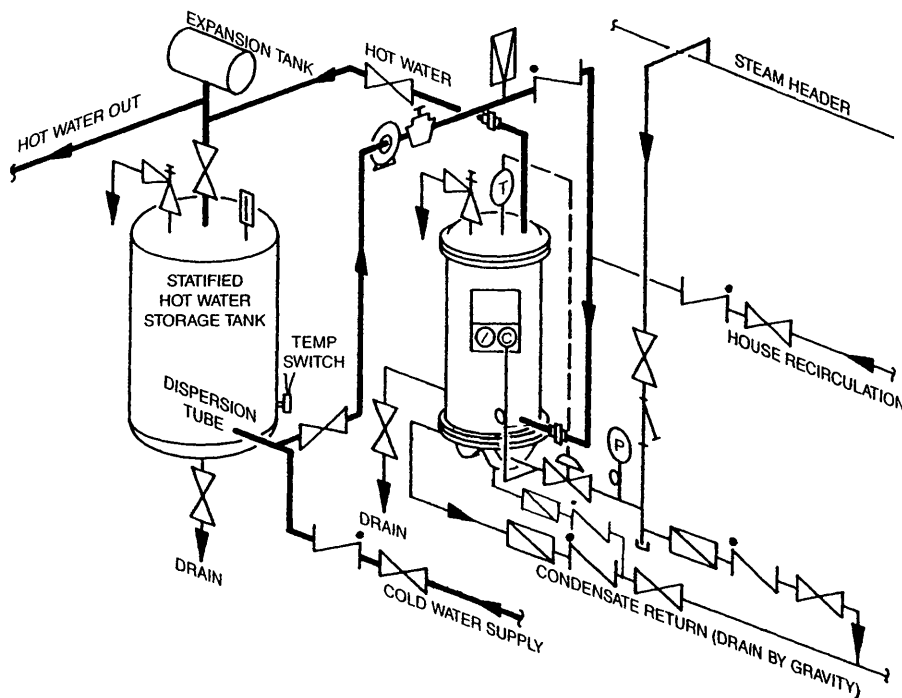

Figure HE-106-6 -- Piping Connections for a Single Steam to Water Heater with a Stratified Storage Tank
- Single Heater with a Stratified Storage Tank -- Figure HE-106-6